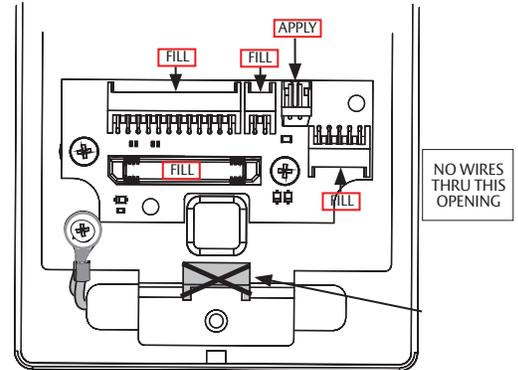
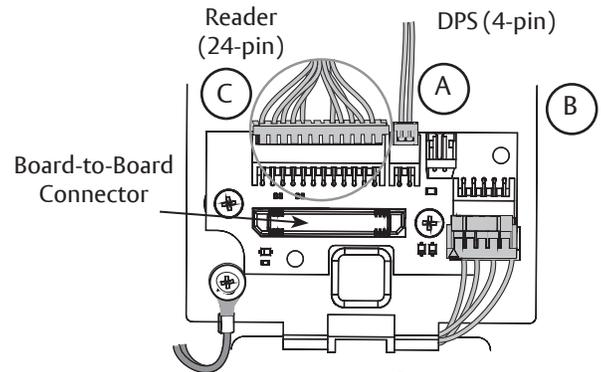

Figure 18a
Figure 18b
- Ensure all connector pins and contacts (Figure 18a) are covered - do not overfill or over-apply**
IMPORTANT: Do not run wires through bottom hole in plate (Figure 18a, 18b) - it will damage wires and the controller connector. Route wires around flange, do not route wires through the flange hole (Figure 18b).
Secure the following connectors (Figure 18b, 18c)
- Secure the mounting assembly while ensuring proper alignment of outside reader and fully tighten the (2) through-bolts on the inside of the door to secure the reader and plate to the door
- Secure the 24-pin card reader connector (Fig. 18b, 18c).